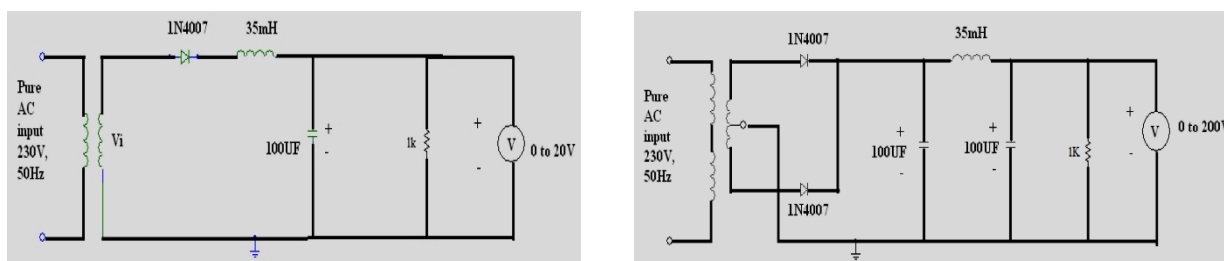

Fig 4.1: Circuit Diagram Showing Half Wave and Full Wave Rectifier with Filters.
- Connect the circuit as shown in the fig. 4.1
- Connect the circuit as shown in the fig. 4.1.